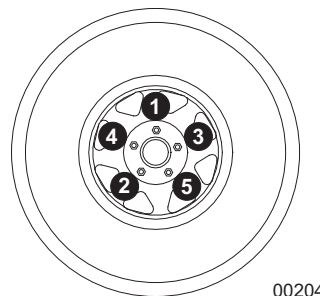

Figure 3-10. Tightening Wheel Lugs
7. See Figure 3-10. Inspect the wheel lugs. Tighten or replace any lugs that are loose or missing. If a tire has been removed for axle service or replaced, tighten the lugs in the order shown, to the following specifications: